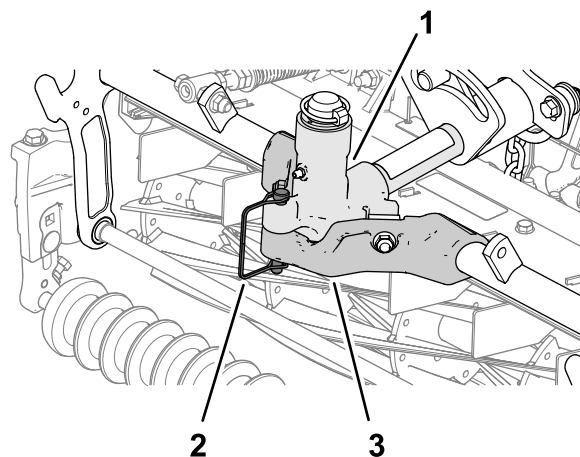

Figure 34
1. Secure the carrier frame of the cutting unit to the pivot yoke with the snapper pin as shown in Figure 34.